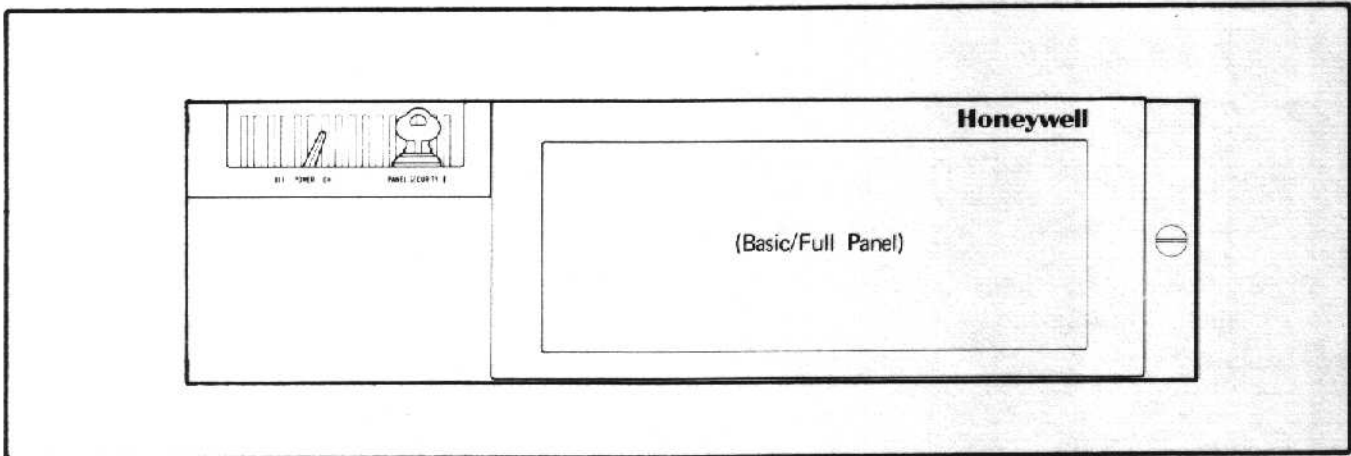

Figure 1-17. Vertical Panel Mounting Option
- o Vertical Panel Mounting Option – available for any rackmountable system where physical space limitations exist and replaces the standard inclined panel mounting (Figure 1-17). It is designed for OEMs with their own cabinetry.